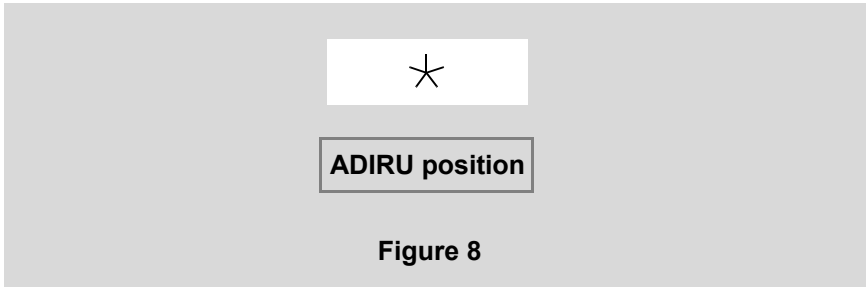

Figure 8
- Change in ADIRU position (Figure 8)